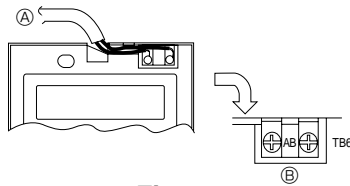

Fig. 2-3
2) Connecting procedures (Fig. 2-3)
① Connect the remote controller cable to the terminal block.